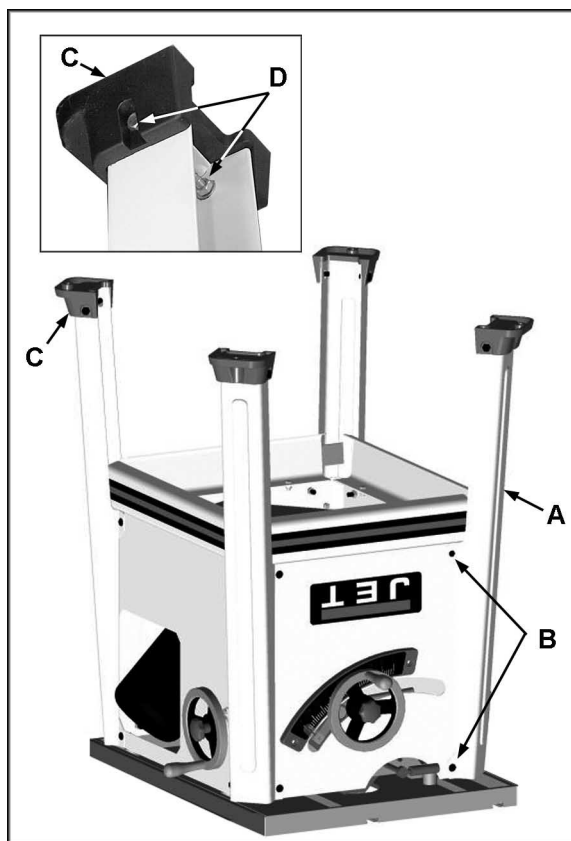

Figure 5
1. Remove all contents from the shipping carton. Keep the saw table upside down (see Figure 5) and place on a two-by-four or similar piece of wood under the rear of the saw. This will help when picking up the table again. Do not discard the carton or packing material until the saw is assembled and is running satisfactorily.
Referring to Figure 5: